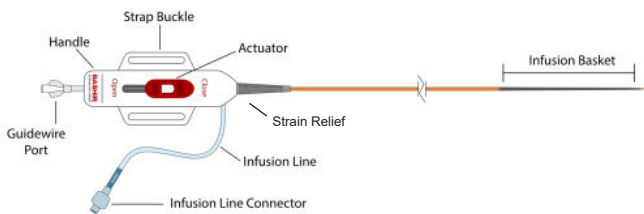
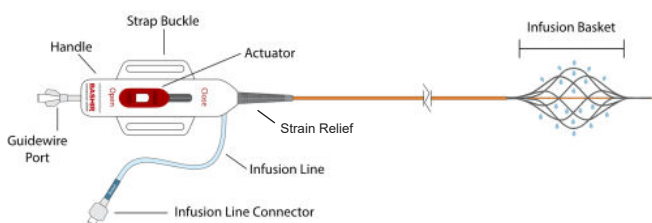

Figure 1. BASHIR® S-B .035 Endovascular Catheter.
Figure 2. BASHIR® S-B .035 Endovascular Catheter with infusion basket fully expanded.
The BASHIR® S-B .035 Endovascular Catheter (Ref. No. 8101) is intended for mechanical thrombolysis using a controlled expansion of a distal infusion basket and localized infusion of physician-specified fluids, including thrombolytics, into the peripheral or pulmonary vasculature. The distal infusion basket is 10.00 cm (3.94 in) long in its unexpanded state and consists of an expandable basket with six (6) mini-infusion catheters, each with multiple infusion holes (Table 1). It is used for the delivery of the physician-specified fluid at multiple cross-sectional points of the target vessel at the location of the thrombus (Figure 1). The infusion basket can be expanded using the red actuator located on the handle at the proximal end of the device (Figure 2). After expansion, the mini-infusion catheters may be returned to their original closed positions by depressing the white button on the actuator and advancing the actuator toward the distal end of the device. The basket infusion line connector is also located on the handle.